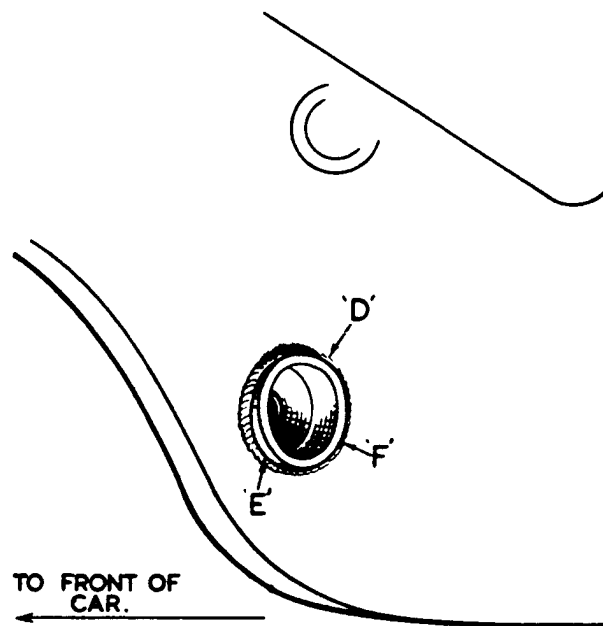

FIG. 4.
- (viii) The next operation is to fit and weld the boss 'F', Fig.4 (also shown in view 'C', Fig.2) in the appropriate position on the rear wing. It will be observed from Fig.4 that the outer face of the boss is nearer to the wing at point 'D', than at point 'E', in order to ensure that the rear end of the fairing fits snugly to the wing. To fit, proceed as follows:-
- c) Trim the hole in the wing until the boss is a good push fit in this hole. Trim the hole in the skin (it is not necessary for the boss to be a good fit in this hole) to allow the boss to be tilted so that when the outer face of the boss is flush with the wing at point 'D' Fig.4, the face of the boss at point 'E' will project from the wing by approximately  $3/16$ ". To assist in positioning the boss, point 'D' should be approximately  $45^{\circ}$  from the vertical line.